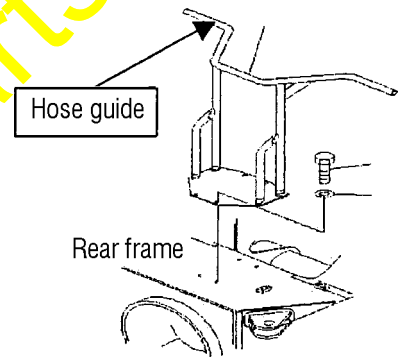

Fig. 1
- 1) Remove the hose guide installed to the front section of the rear frame. (Refer to Fig. 1.)